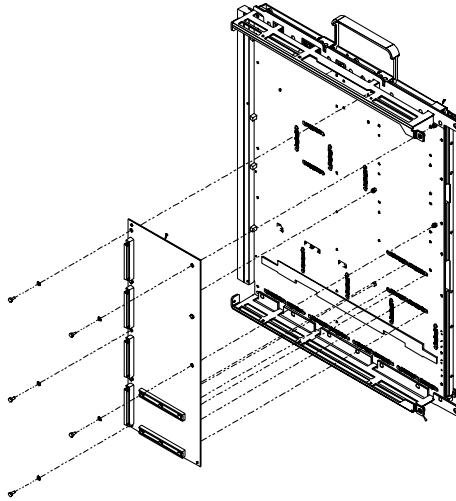

FIGURE 3 SBus I/O Module Removal
3. Remove the SBus I/O module (FIGURE 3 on page 5).